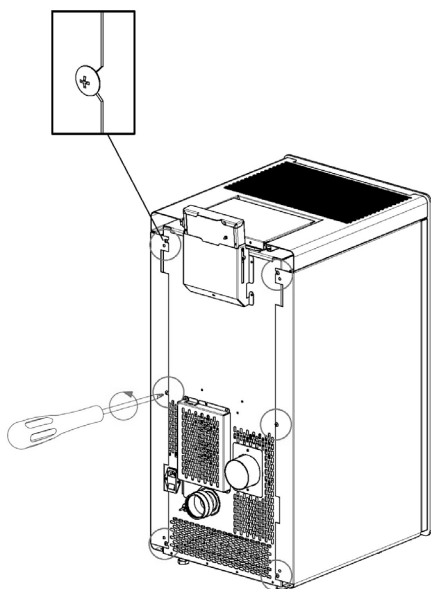

Fig. 69 - Loosen screws
- Loosen the 4 back screws (see **Fig. 69**).
- Loosen the 6 back screws (see **Fig. 69**).